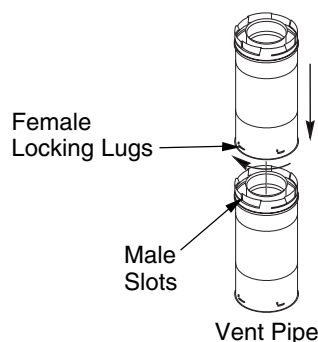

Figure 23 - Vent Pipe Connections
Twist-lock Procedure: The female ends of the pipes and fittings have four locking lugs (indentations). These lugs will slide straight into matching slots on the male ends of adjacent pipes and fittings. (All connections must be sealed with high temperature silicone sealant as specified in the second warning statement on page 12.) Push the pipe sections together and twist one section clockwise approximately one-quarter turn until the sections are fully locked. See Figure 23. *Note:* Horizontal runs of vent must be supported every three feet. Use wall straps for this purpose.
2. Assemble the desired lengths of pipe and elbows necessary to reach from the burner system flue up through the firestop. All connections must be sealed with high temperature silicone sealant as specified in the second warning statement on page 12. Be sure all pipe and elbow connections are fully twist-locked (see Figure 23, page 13).